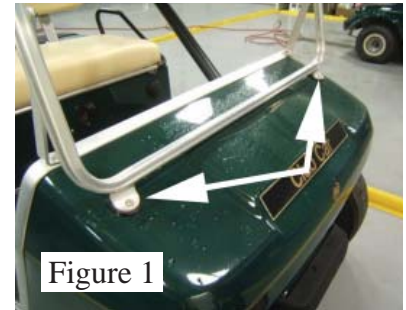

Figure 1
1. Remove the 1/2" bolts at the bases of the roof struts. (See Figure 1 & 2).